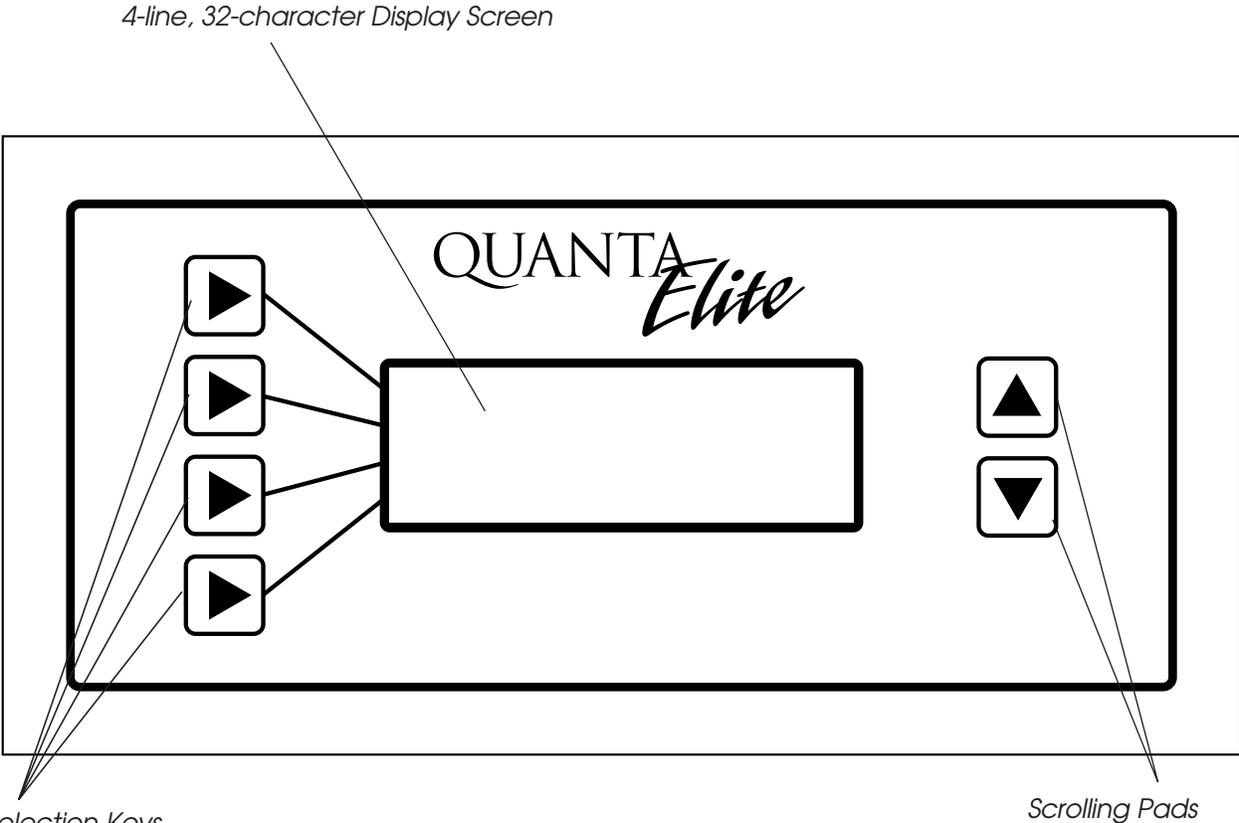

Figure 1.4 – Elite Keypad and Display
1.1.5 Programming Module – (See Figure 1.4.) The programming module provides you with access to program and view controller data. It consists of a tactile response keypad and screen. The programming module is either mounted to the CPU I/O board or at your option can be a separate hand-held portable device that you can temporarily connect during programming and then detach.